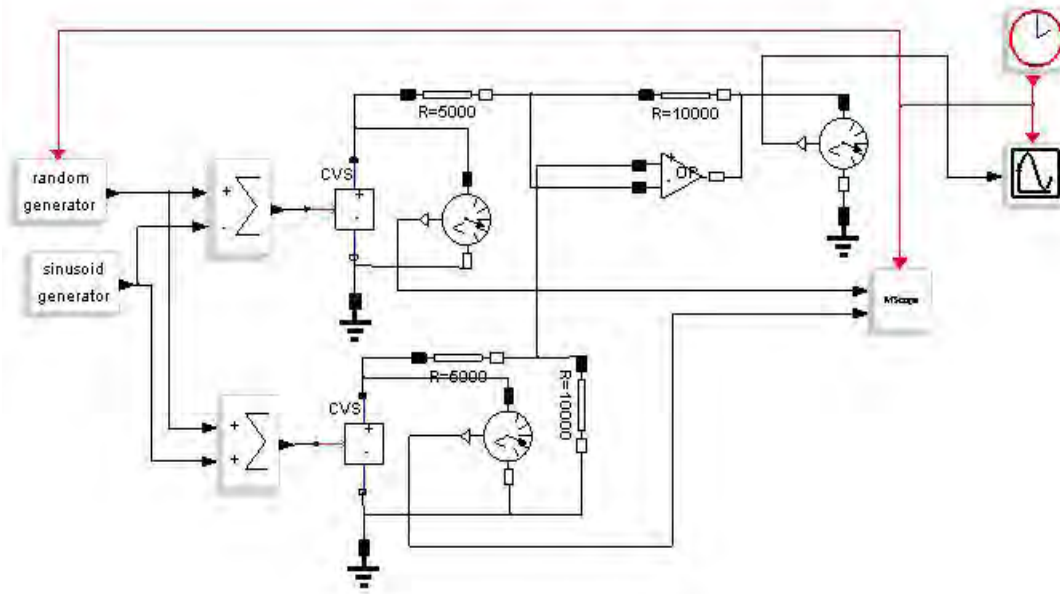
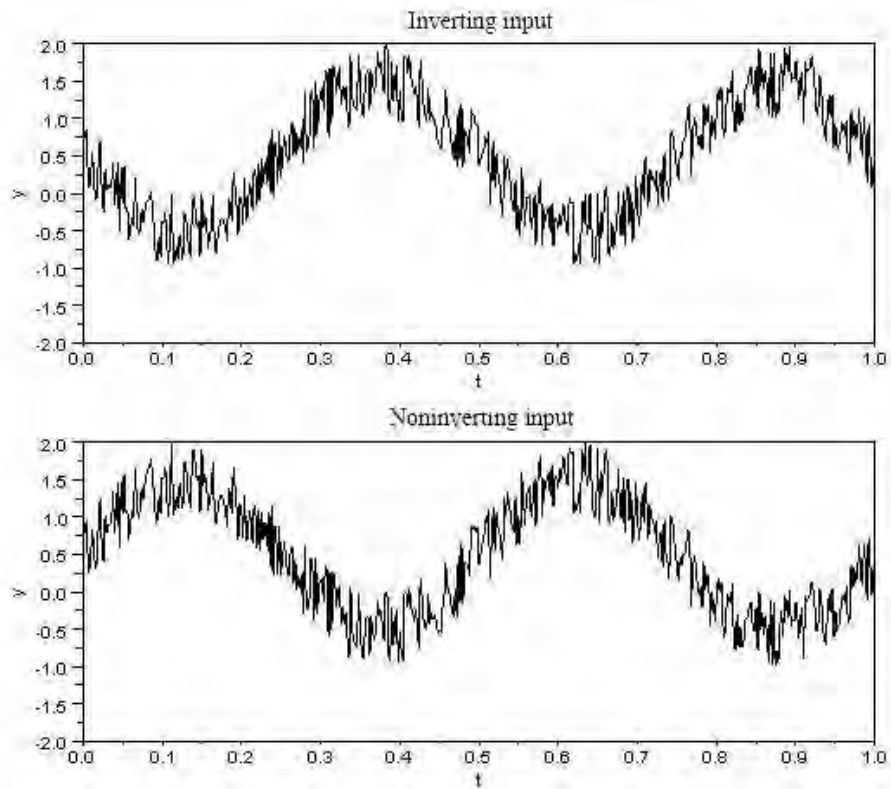
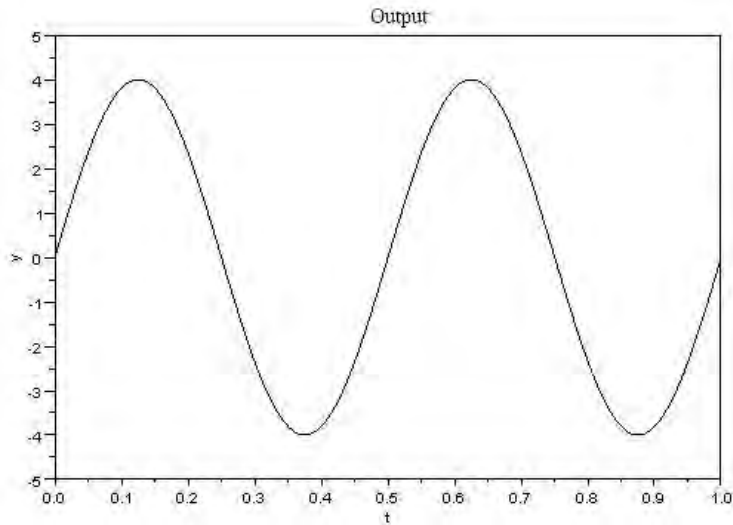

Figure 11: Scicos/Modelica diagram of a differential amp used in ECG device
Figure 12: contaminated signals at the two inputs of op-amp
Figure 13: output signal from the differential amp
Ex.3: When an electronic device is subjected to a random interference signal, it is problematic to design a filter that could get rid of such interference since it has a very broad frequency spectrum. So a better approach is to use a differential amp. Figure 11 shows a simulation of differential amp in a ECG (Electrocardiography device) using Scicos/Modelica. The desired 2 Hz signal from ECG has unit amplitude. The noise signal is constructed using random generator block. Values of resistors R_1 and R_2 in (26) are chosen as $5K\Omega$ and $10K\Omega$, respectively. Figure 12 shows the contaminated signals entering the two inputs of op-amp. Figure 13 shows the output signal with the common mode eliminated. One can easily verify that the gain conforms to (26) with the chosen values of R_1 and R_2 .
Ex. 4: Suppose we want to design a servomotor drive that accepts analog input in the range ± 10 volts. A 10 V command makes the motor rotate clockwise at maximum speed, say, 3,000 rpm, while a -10 V drives the motor counterclockwise at maximum speed as well. At 0 V command the motor stops spinning. This analog command input must be sampled by the ADC module of a microcontroller that has analog input range 0 – 5 Volts. Obviously, we cannot connect the analog command directly to ADC pin of the microcontroller. So a level shifter circuit like shown in Figure 13 is designed to attenuate and shift the ± 10 V command signal to 0 – 5 V range. Our job is to select the values for $R_1 - R_4$, and V_B appropriately.